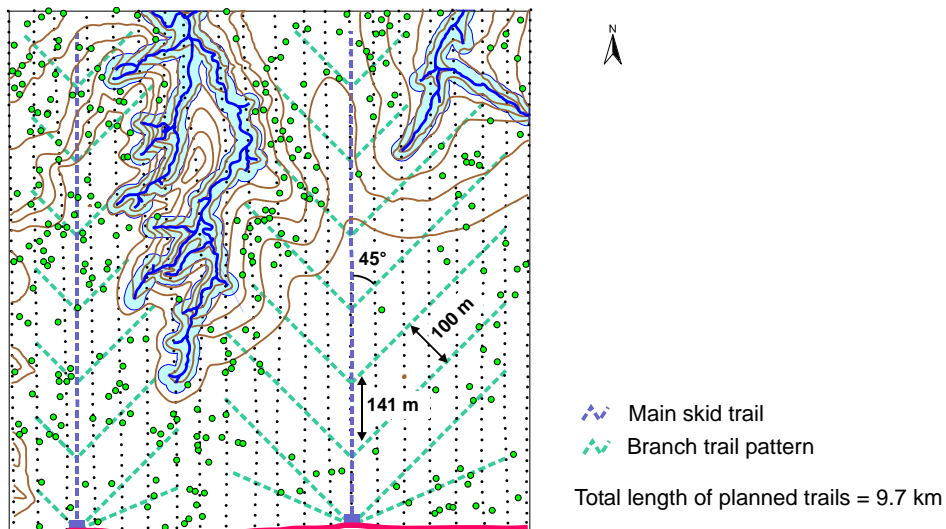

Figure 36 Basic branch trail pattern
**2. Pre-plan branch trail network following a herringbone design (Fig. 36)**